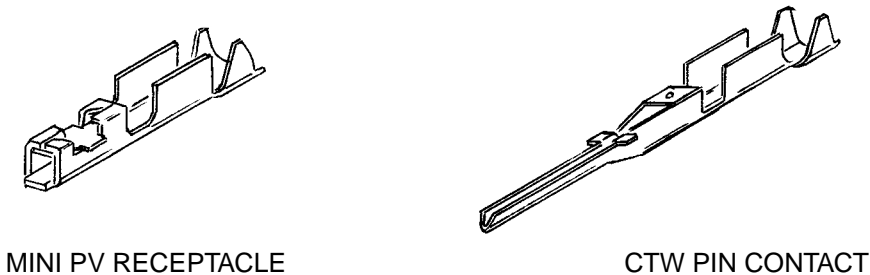

Figure 1 - General Description of Berg Contacts
- 4.1.2 BERG crimp style contacts as specified on the engineering drawing or EDA wiring list. Refer to Figure 1 for a general description of the BERG crimp style contacts.